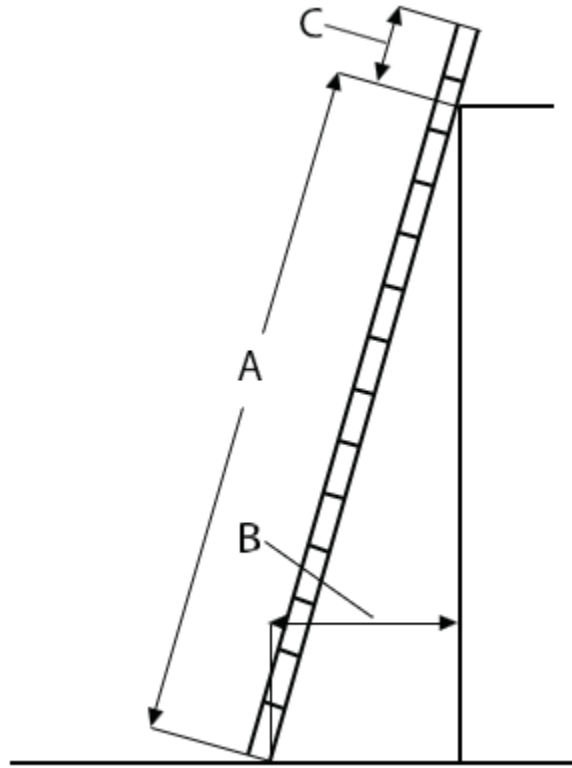

Figure 1 Correct ladder slope (BC Industry Training Authority, 2019). CC BY-NC-SA 4.0 (<https://creativecommons.org/licenses/by-nc-sa/4.0/>)
- See the illustration for Figure 1: It shows a side-elevation view of a ladder leaning against a building. If dimension A is 4 m (13 ft), then B should be approximately 1 m (3 ft), and C should extend approximately 1 m (3 ft) above the level of the landing.